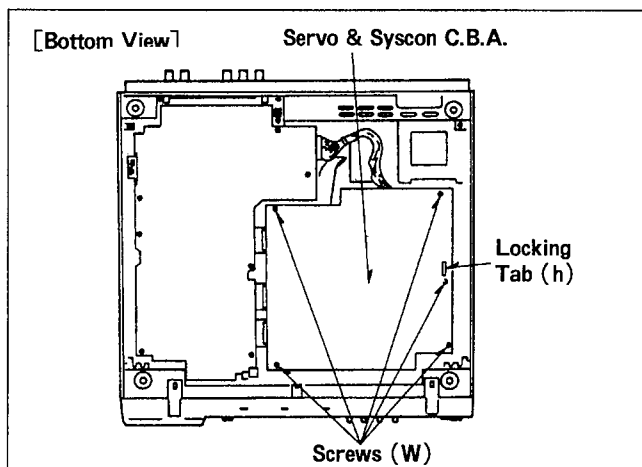

Figure D28
1. Unscrew the 5 screws (W) on the Servo & System Control C.B.A. (Figure D28)
2. Unlock a locking tab (h) on the Servo & System Control C.B.A. (Figure D28)